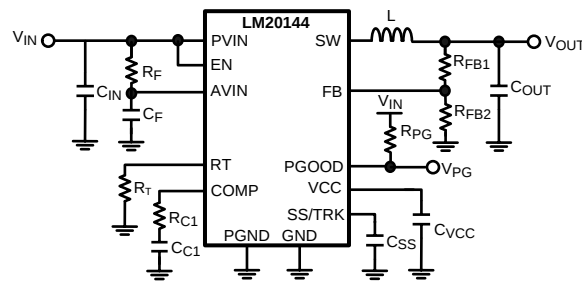

Figure 28. Typical Application Circuit
The LM20144 switching regulator features all of the functions necessary to implement an efficient low voltage buck regulator using a minimum number of external components. This easy to use regulator features two integrated switches and is capable of supplying up to 4A of continuous output current. The regulator utilizes peak current mode control with nonlinear slope compensation to optimize stability and transient response over the entire output voltage range. Peak current mode control also provides inherent line feed-forward, cycle-by-cycle current limiting and easy loop compensation. The switching frequency can be varied from 500 kHz to 1.5 MHz. The device can operate at high switching frequency allowing use of a small inductor while still achieving high efficiency. The precision internal voltage reference allows the output to be set as low as 0.8V. Fault protection features include: current limiting, thermal shutdown, over voltage protection, and shutdown capability. The device is available in the HTSSOP 16-pin package featuring an exposed pad to aid thermal dissipation. The LM20144 can be used in numerous applications to efficiently step-down from a 5V or 3.3V bus. The typical application circuit for the LM20144 is shown in Figure 28 in the design guide.
This section walks the designer through the steps necessary to select the external components to build a fully functional power supply. As with any DC-DC converter numerous trade-offs are possible to optimize the design for efficiency, size, or performance. These will be taken into account and highlighted throughout this discussion. To facilitate component selection discussions the circuit shown in Figure 28 below may be used as a reference. Unless otherwise indicated all formulas assume units of amps (A) for current, farads (F) for capacitance, henries (H) for inductance and volts (V) for voltages.
To prevent high frequency noise spikes from disturbing the sensitive analog circuitry connected to the AVIN and AGND pins, a high frequency RC filter is required between PVIN and AVIN. These components are shown in Figure 28. as  $C_F$  and  $R_F$ . The required value for  $R_F$  is 1Ω.  $C_F$  must be used. Recommended value of  $C_F$  is 1.0 μF. The filter capacitor,  $C_F$  should be placed as close to the IC as possible with a direct connection from AVIN to AGND. A good quality X5R or X7R ceramic capacitor should be used for  $C_F$ .